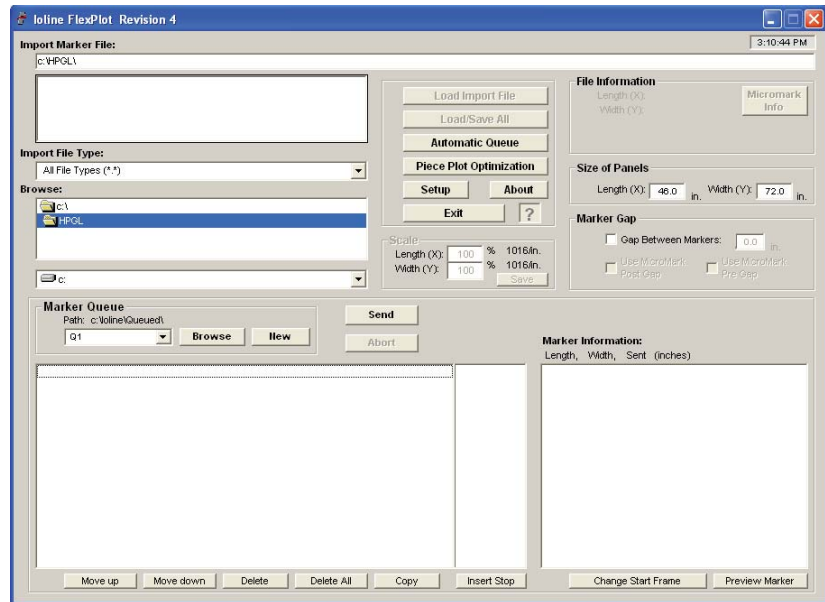

Figure 2. The Main **FlexPlot** Window.
- The Ioline **FlexPlot** program icon is stored on the desktop or under *Start/Programs/Ioline*. Start **FlexPlot** by clicking the program icon. The main program window will appear. (See *Figure 2*.)
1. Start the FlexPlot software if it is not already running. The main program window will appear. (See Figure 2.)